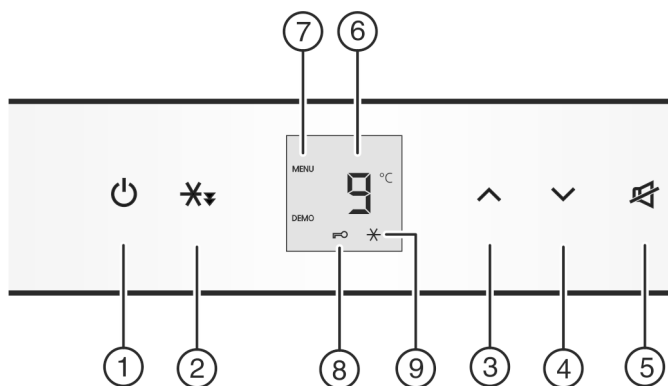

Fig. 2
- ▶ Press On/Off button *Fig. 2 (1)*.
- ▶ To activate setting mode: Press and hold the SuperCool button *Fig. 2 (2)* for approx. 5 s.
- ▶ To switch on the child-proof lock, press the SuperCool button *Fig. 2 (2)* briefly.
- ▷ The child lock symbol *Fig. 2 (8)* shines. **c** flashes in the display.
- ▶ To switch off the child-proof lock, press the SuperCool button *Fig. 2 (2)* briefly.
- ▷ The child lock symbol *Fig. 2 (8)* goes out. **c** flashes in the display.
- ▶ To deactivate the set-up mode: press On/Off button *Fig. 2 (1)*.
- ▶ For a higher temperature setting: press Up button *Fig. 2 (3)*.
- ▶ For a lower temperature setting: press Down button *Fig. 2 (4)*.
- ▶ Briefly press the Quick Cool button *Fig. 2 (2)*.
- ▷ The QuickCool *Fig. 2 (9)* symbol lights up on the display.
- ▷ The Quick Cool *Fig. 2 (9)* symbol dims on the display.